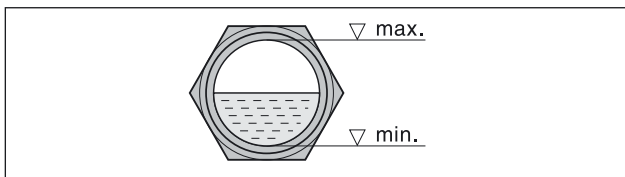

Fig. 6 Oil level
- b) After correcting the direction of rotation if necessary, start the motor again and stop it again after 2 minutes in order to top missing oil up to the upper edge of the sight glass (Fig. 6/I). This topping up at the filling point (Fig. 2/H) must be repeated until all the oil pipes have been filled completely.